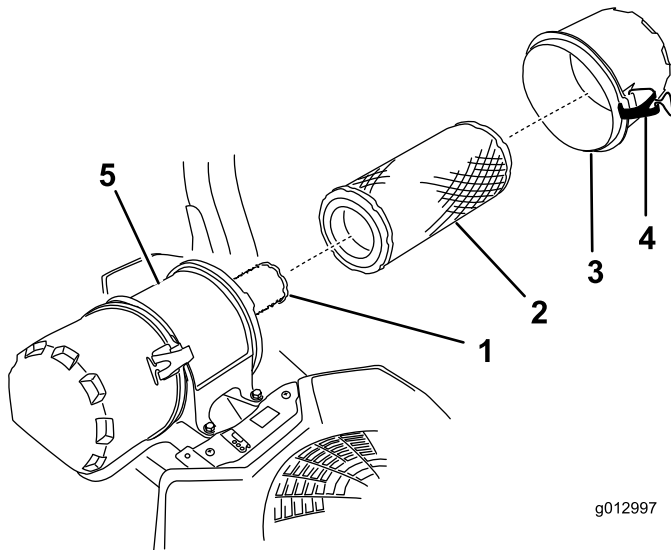

Figure 48
6. Release the latches on the air cleaner and pull the air-cleaner cover off the air-cleaner body (Figure 48).
8. Gently slide the primary filter out of the air-cleaner body (Figure 48).
2. If the inner filter is being replaced, carefully slide it into the filter body (Figure 48).
3. Carefully slide the primary filter over the inner filter (Figure 48).
4. Install the air-cleaner cover and secure the latches (Figure 48).